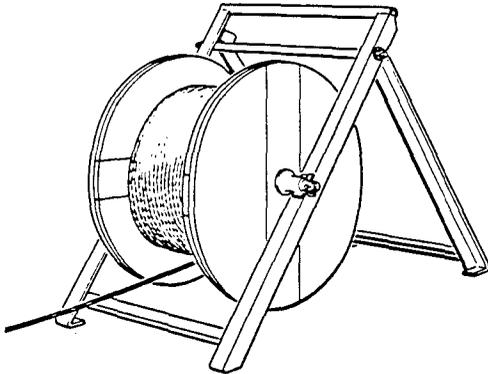

Fig. 7 — Strand Reel on Strand Payout Frame
5.01 Support the strand reel on a strand payout frame, on cable reel jacks, or on a reel trailer during payout operations. Fig. 7 shows the strand reel supported on a strand payout frame.